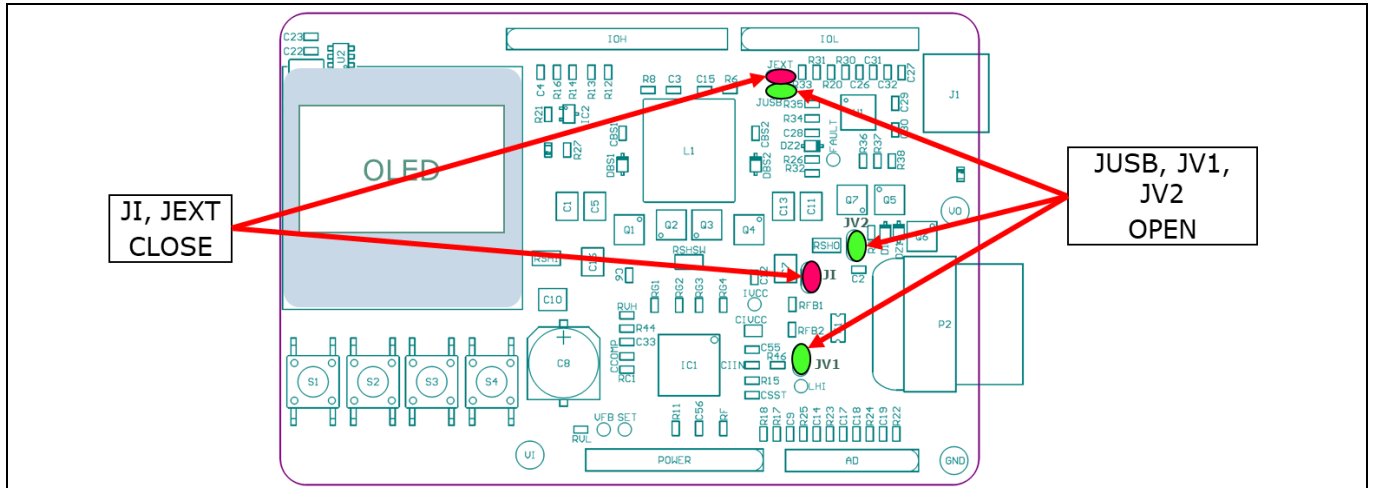

Figure 6 Set jumpers for charger mode powered by standard power supply
1. Configure solder jumper for battery charger and external standard power supply: see Figure 6